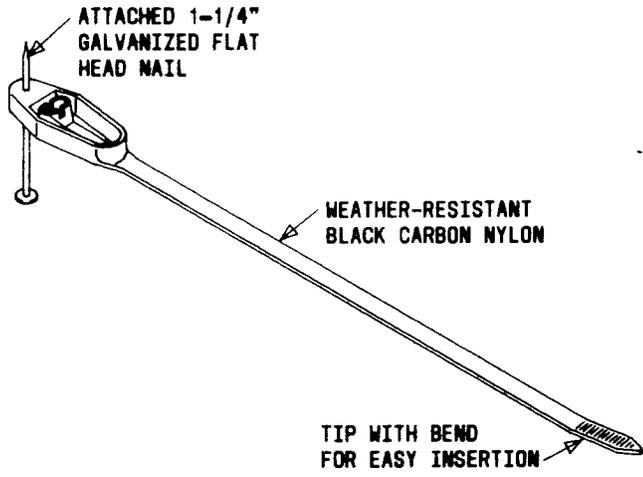

Fig. 12—B Drive Tie
6.02 ♦The B drive tie (Fig. 12) is a one piece plastic tie with a number 4 galvanized flathead nail protruding from one end. To install, drive the nail into a wood surface or plastic anchor. The tie can secure one or more cables.♦